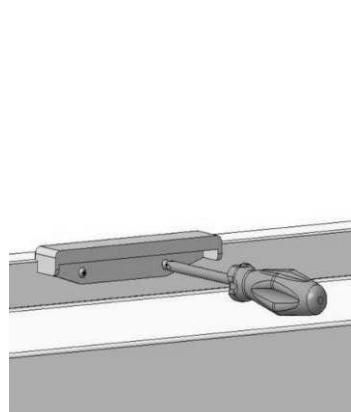

Fig. 4.1
4.5 For using of the convector in mobile version set the supports and the handle as shown in Figure 4.1 – 4.4.